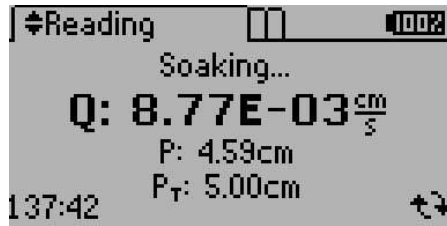

Figure 14 Status screen during test
- **Status Screen.** The Status screen shows the test status, such as **Soaking** (Figure 14). When the test is completed, it changes to the Results screen.